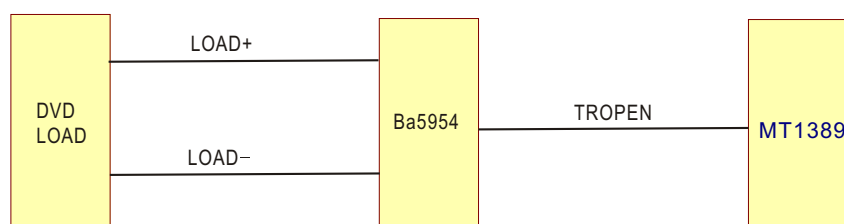

Figure 3.2.8.1 Disc in/out circuit diagram
3. Main axis driving working principle is shown in figure 3.2.8.2: